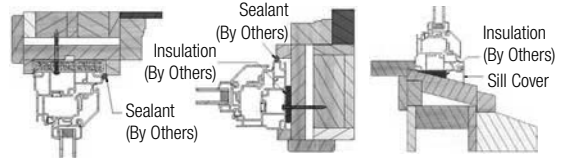

FIG. 16a
- E) Using low expansion foam (not provided by Windsor - See "Materials Needed" above), insulate both sides of the window. (Figs. 16a, 16b, 16c) Once the foam is cured, reinstall the interior stops and trim.
- F) From the exterior insulate the bottom of the window. Apply the sill angle once the insulation is cured. Using a quality grade neutral cure exterior sealant, seal the side and head outside stops to the frame. (Figs. 16a, 16b, 16c) **Note: Do not seal the sill angle to the frame.**